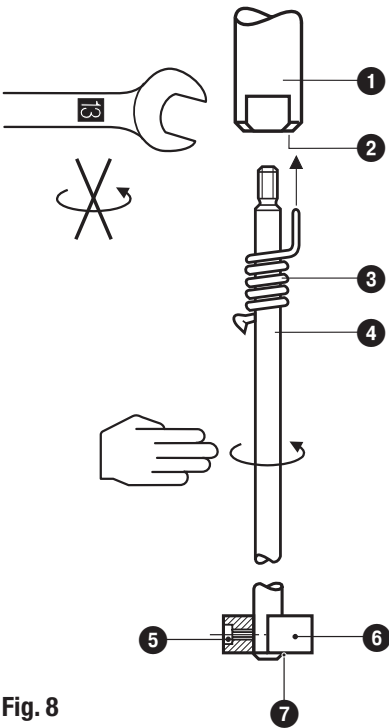

Fig. 8
1. Screw electrode tip ④ into measuring electrode ①, **Fig. 8**
3. Mark length of electrode tip ④.
4. Unscrew electrode tip ④ from measuring electrode ① and cut tip.
5. Screw electrode tip ④ into measuring electrode ① and tighten. Slide spring ③ along electrode tip ④, so that its bent end completely enters into small bore ②.
6. If a measuring surface extension is required slip disk ⑥ onto electrode tip ④ ensuring that the electrode tip protrudes 2 mm from disk. Fasten disk with grub screw ⑤. Push retaining ring ⑦ over electrode tip against disk ⑥.